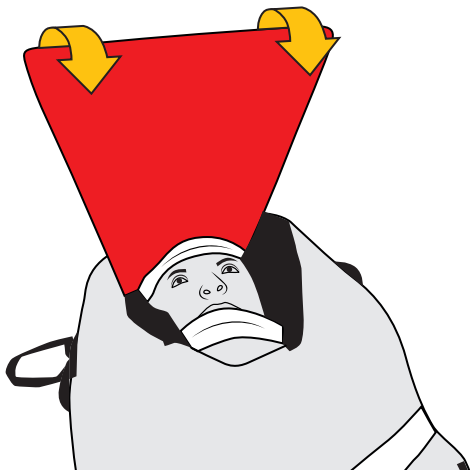

Fig.33
e) place the mesh cover to repair the face of the injured person from the air and from any debris moved by the helicopter (fig. 33),